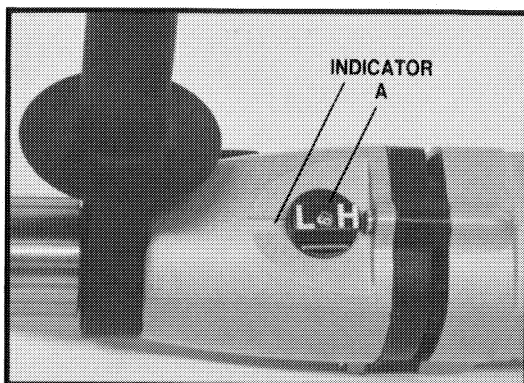

Fig. 4
For high speed operation, rotate speed selecting knob (A) Fig. 4, clockwise aligning “H” with indicating mark on the gear case. For low speed operation rotate knob counterclockwise aligning “L” with the indicating mark. It may be necessary to rotate the chuck by hand while rotating knob.